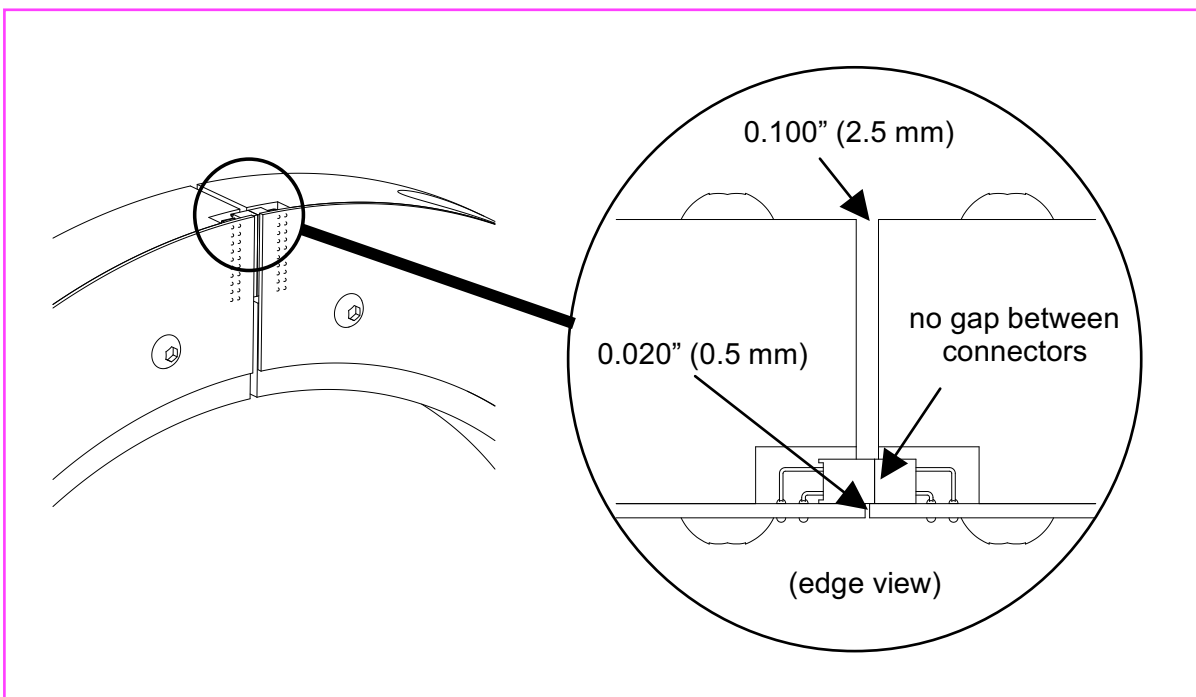
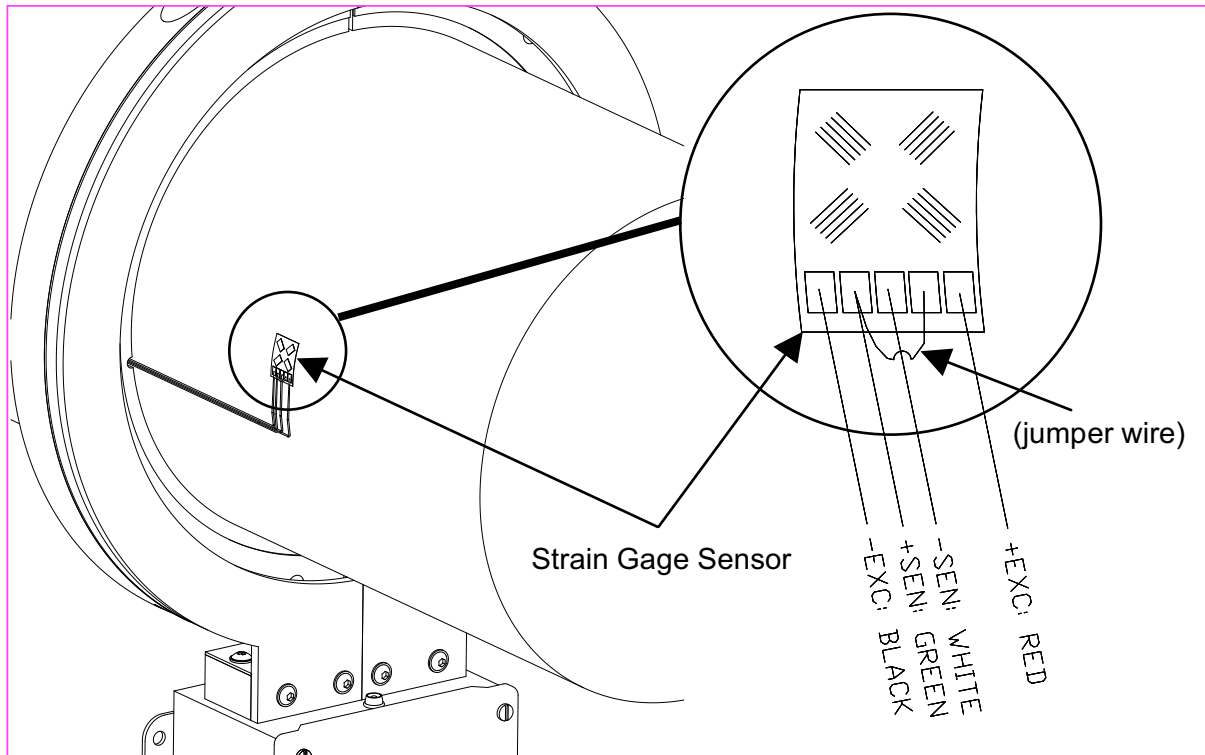

Figure 9 - Correct Collar Gap Spacing
Figure 10 - Strain Gage Connections
2. Remove large bolts from Rotating Collar if necessary to separate parts. Apply antiseize compound (provided) to the bolt threads. Reassemble collar on shaft adjacent to gage with ribbon cable from collar leading towards gage. (Refer to Figure 1 on page 3 or Figure 10 on page 19.) Make certain that connectors are properly aligned. Install opposing collar bolts from opposite directions to maintain balance. Tighten alternate bolts evenly until gap between collar halves is .100" (2.5mm) at all junctions. (See Figure 9 below.)
4. Securely mount Master Control Unit to machine or mounting bracket (not provided) so that the back surface of the Collar aligns with the back edge of the Mounting Block. (Refer to Figure 1 on page 3 or Figure 10 on page 19.) Additional support for the Power Coil may be required depending on the size and application; mounting tabs are incorporated into the larger Power Coil designs and brackets are included.
10. Trim ribbon cable from Rotating Collar to length and retain the star bridge. (The star bridge has a built-in led that may be used to troubleshoot future errors.) Connect (solder) cable to sensor. (Refer to Figure 10 below.) Note: Keep ribbon cable as short as practical (6 to 8 inches typical) to avoid unwanted electrical noise. For long cable runs consider using shielded cable. Secure ribbon cable to shaft using adhesive or fiberglass tape or more permanent methods as appropriate.